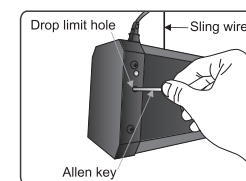

Figure 20
2. Retract drop adjusting. Take off the knob from the whole and then use the provided allen key to adjust. If it goes clockwise, the housing would lower down, to adjust anticlockwise the housing would raise. (Figure 20)